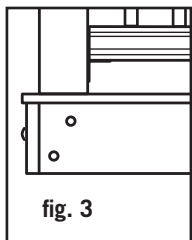

fig. 3
Step 3: Position, plumb with a level and clamp the rail post on the interior face of the joist. Plumb again. The 4x4 railing post should be bolted to the inside of the joists using two 1/2"x6" galvanized carriage bolts. Corner posts use a third carriage bolt inserted through the adjacent joist (fig. 3).